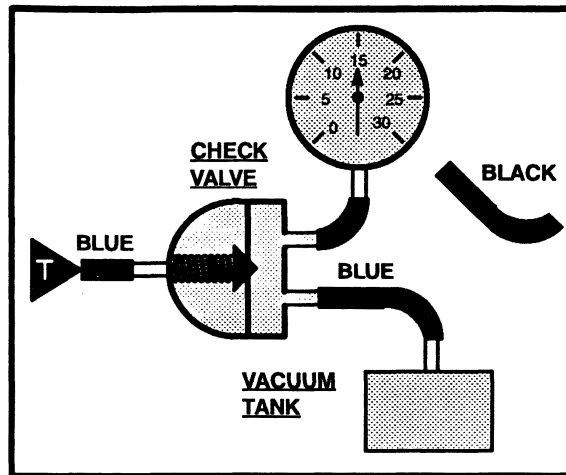

Figure1 - System Supply Test
1. Connect Vacuum Tester to system side of Check Valve (Figure 1).